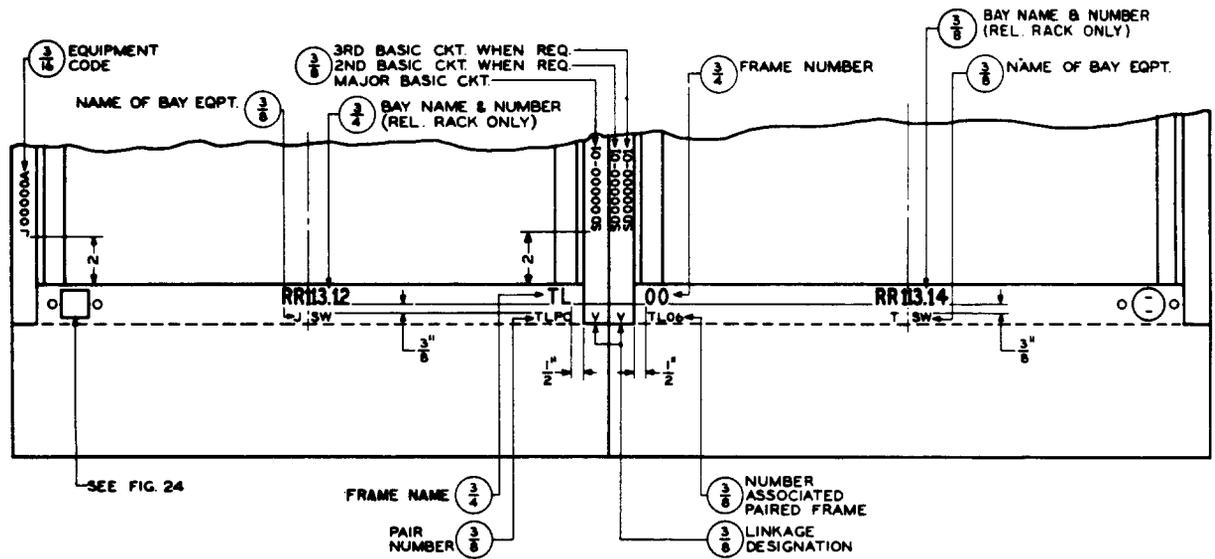

Fig. 11 - Front View of Double-bay, Box-type Frame Base
- (b) On double-bay frames stamp, when required, on the face of the center uprights of the frame, as shown in Fig. 11.
- (a) *On the front* slanted face of the frame base, located to the left and right, respectively, of the center uprights, as shown in Fig. 11.
- (a) *On the front* slanted face of the frame base, centered in each bay, as shown in Fig. 11.
- (a) *On the front* slanted face of the frame base, located below the center of each bay, as shown in Fig. 11.
2.27 The name and number of an associated frame and trunk link pair number on double-bay frames, when required, shall be stamped on the front slanted face of the frame base directly beneath the frame name and number, as shown in Fig. 11.
- (a) *On the front*, located on the face of the center uprights near the bottom, as shown in Fig. 11.